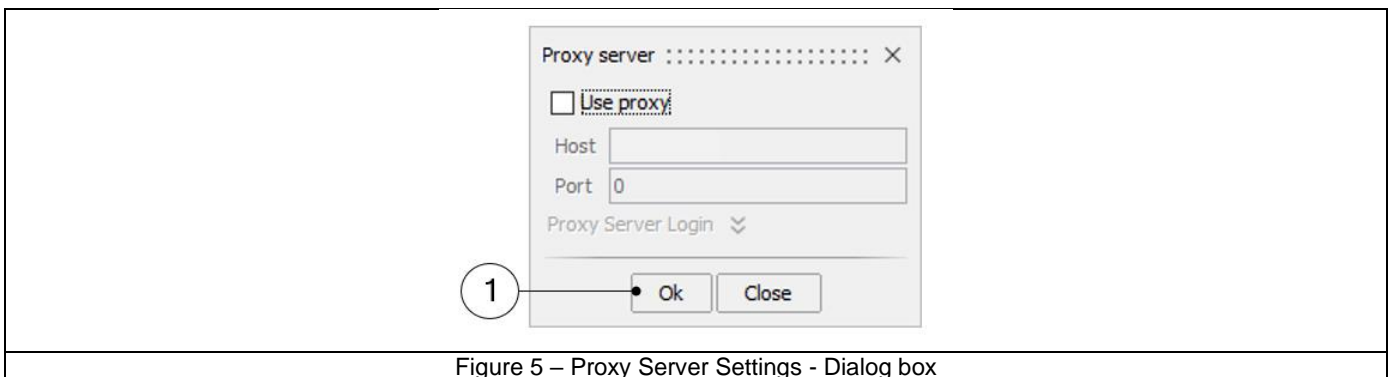

Figure 5 – Proxy Server Settings - Dialog box
- 6) Click on the OK button (Mark 1 - Figure 5 – Proxy Server Settings - Dialog **box**). The status will change to Activated when the license is validated, or you will receive an error message if unsuccessful.